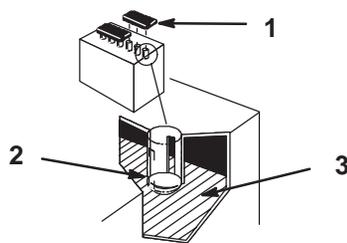

Figure 27
2. Open covers to see into the cells. The electrolyte must be up to the lower part of the tube (Fig. 27).
Important Do not allow the electrolyte to get below the plates. (Fig. 27).
2. Lift off the filler caps (Fig. 27).
3. Slowly pour distilled water into each battery cell until the level is up to the lower part of the tube (Fig. 27).